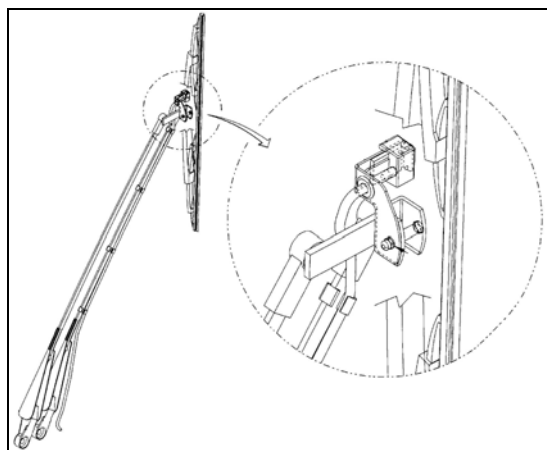

FIGURE 2 : WINDSHIELD WIPER (DRIVER SIDE)
5. Install the windshield washer tubing, wiper blade and washer nozzle as shown in figures 2 & 3.